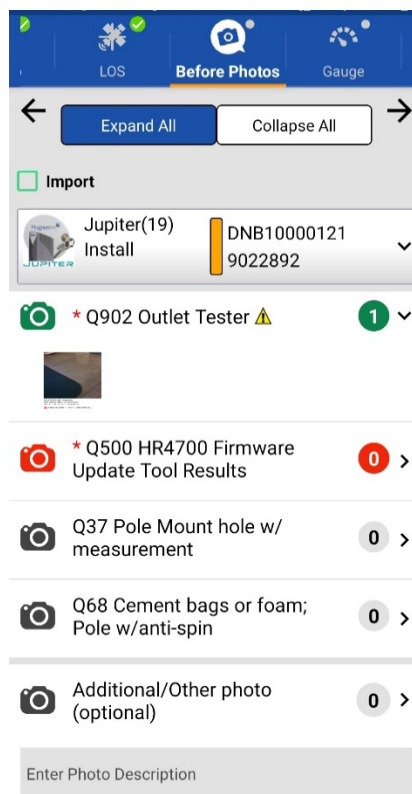

Figure 61: Before Photos screen prior to taking photos
1. Tap **Initiate Activation**. The box below the button should show that the process was successful. A successful activation will enable a “Success” popup (Figure 61) to appear. Before continuing, make sure the terminal code is *1000* and the terminal description is marked as *Success* in the box below the button.